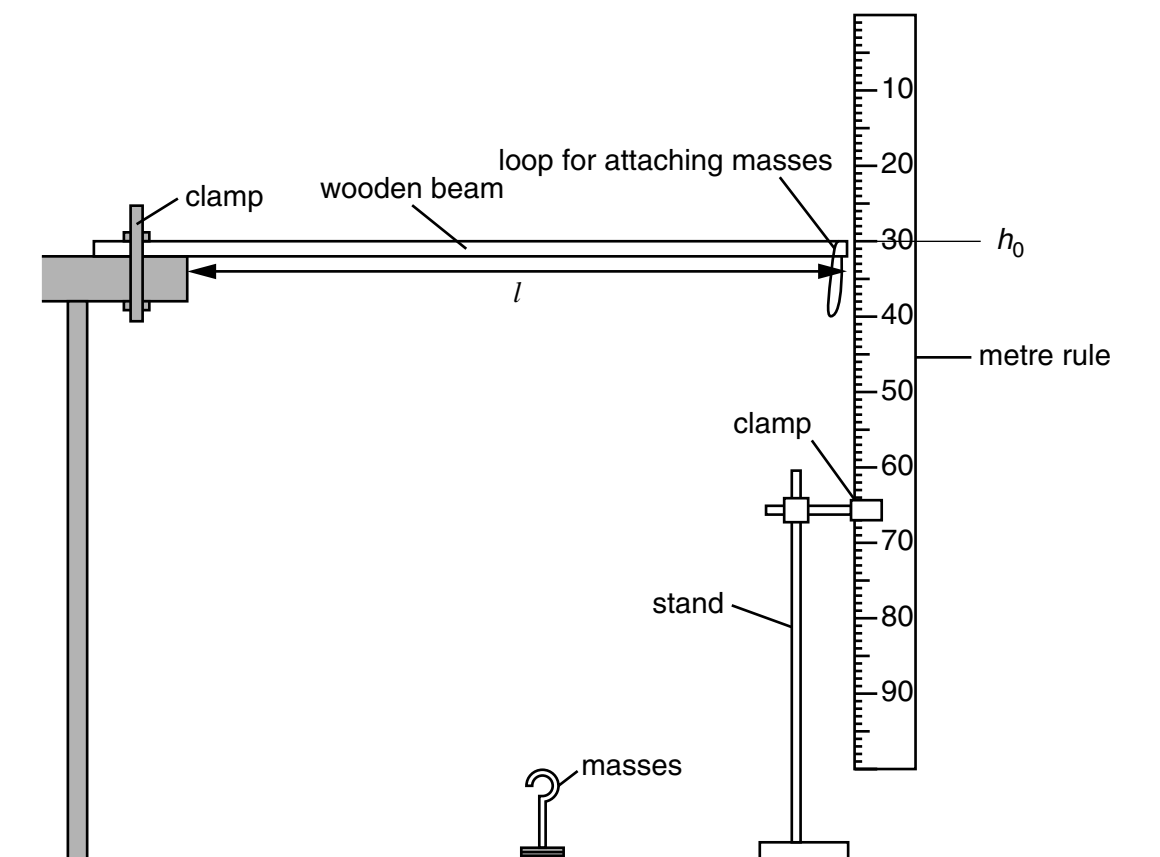

Fig. 3.1
A wooden metre rule, labelled as the wooden beam in Fig. 3.1. See note 1.
2. The apparatus is to be set up as in Fig. 3.1. Candidates will need room to be able to move around the wooden beam which will protrude away from the table or bench. The metre rule will need to be supported vertically with the stand, clamp and boss.